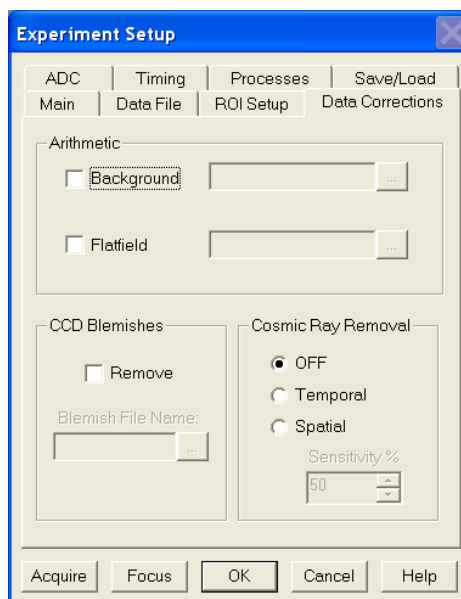

Figure 31. Data Corrections tab
4. On the **Data Corrections** tab (Figure 31) all of the correction functions should be OFF.